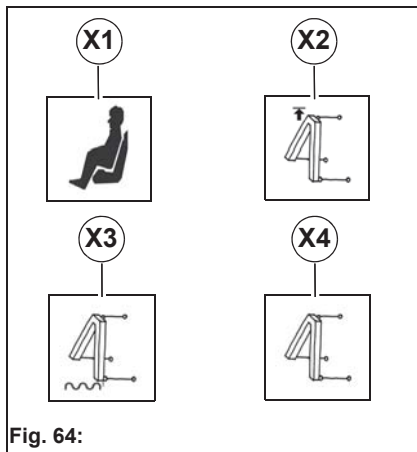

Fig. 64:
- The following is shown in the multifunction display: Driver not on driver's seat **Fig. 64-X1**; upper end position of the front tool carrier **Fig. 64-X2**; floating position of the front tool carrier **Fig. 64-X3**; front tool carrier lowered and fixed **Fig. 64-X4**.